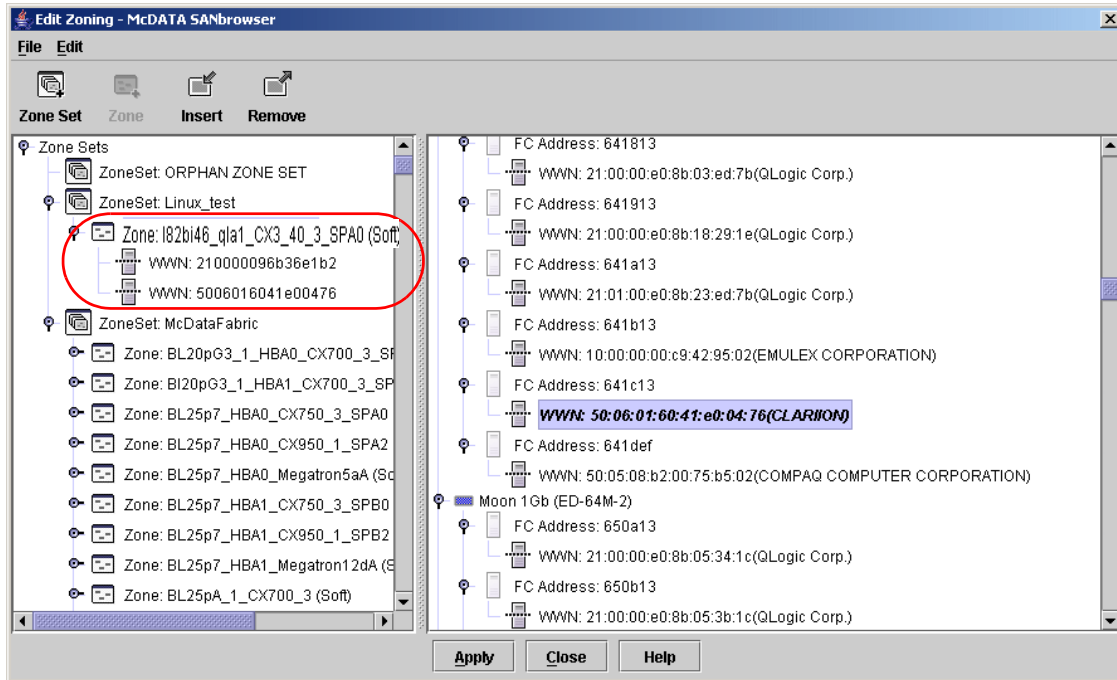

Figure 8-26 I82bi46_qla1_CX3_4D_3_SPA0 zone window
16. In the right panel, locate the Storage WWN that will be utilized for the Boot from SAN configuration (see Figure 8-26 on page 248).
17. From the right panel, add the Storage WWN to the I82bi46_qla1_CX3_4D_3_SPA0 zone. Hold down the mouse button and drag the member to the zone. In our example, this is WWN: 50:06:01:60:41:e0:04:76 (CLARIIION). You will see a window similar to Figure 8-26.